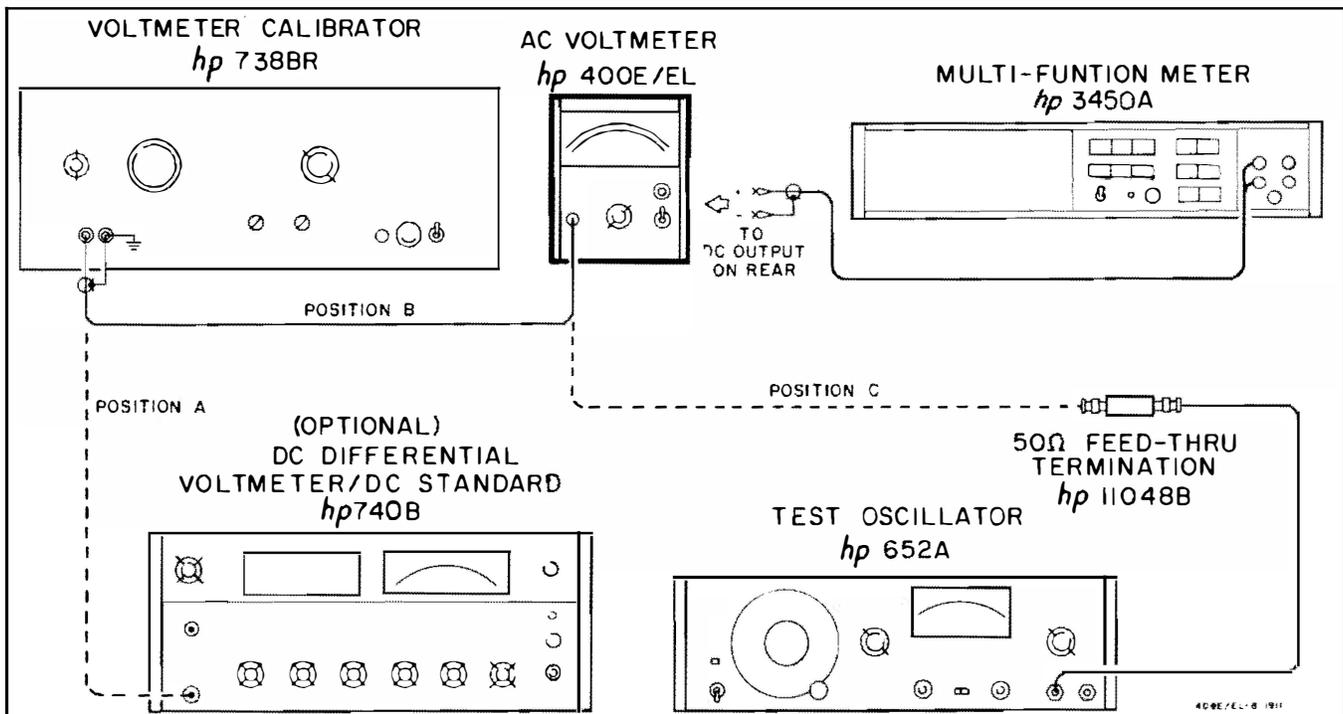

Figure 5-5. Alternate Calibration and Frequency Test Setup
- Connect the circuit as in Figure 5-5 position A. Place the ac differential voltmeter to 300 volts (maximum sensitivity) and place the calibrator to 400Hz rms, 300 volts.
- Connect the circuit as in Figure 5-5 position B. The 400E/EL should read 300 volts \pm 1% or \pm 3 volts. The dc output should be .949 \pm 0.0047.
- Change the calibrator and ac differential voltmeter to 100 volts. Connect as in Figure 5-5 position A. Adjust the AC INTERNAL CALIBRATION for an exact reading on the differential voltmeter.
- i. Connect the circuit as in Figure 5-5 position C.
- n. Repeat steps h thru m for descending ranges at full scale and 1/3 full scale using the appropriate tables for tolerances. Below 50mV do not use Figure 5-5 position A as the calibrator is more accurate than the differential voltmeter at these low voltages.